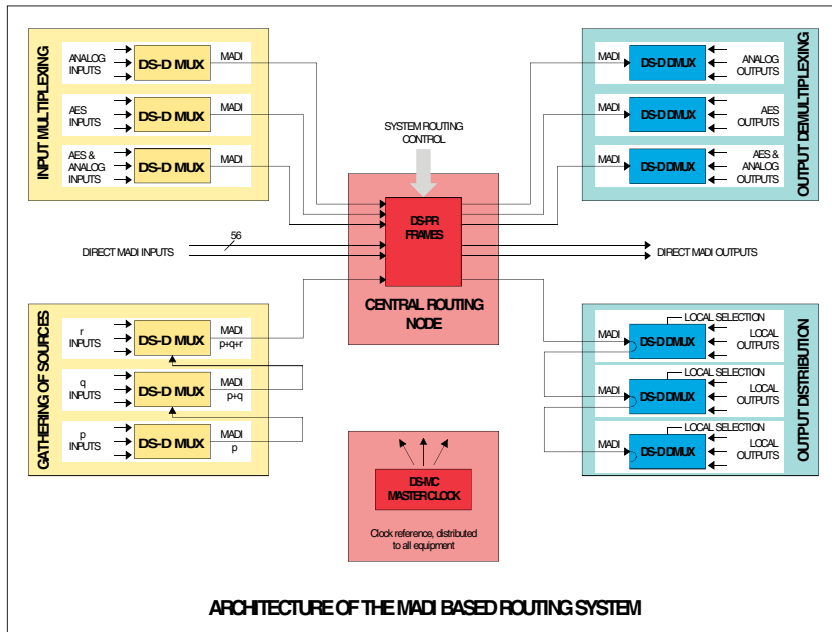

Fig. 3: Block diagram of the MADI-Router
- peripheral components which have the ability to «pack» audio sources into MADI frames (Fig. 3 left hand side) or to distribute a MADI frame to the single audio destinations (Fig. 3 right hand side),
- and a switching node (Fig. 3 center), which receives and sends MADI signals.
It can happen that a studio does not supply enough channels to fill a full MADI frame. The peripheral components are able to accept partially filled MADI frames, to fill it up with the own input signals, and to resend it (Fig. 3 left bottom). This process can be daisy-chained until all subframes of a MADI signal are set valid (i. e. contain useful data).
Vice versa the system works also at the audio sinks (Fig. 3 right bottom).